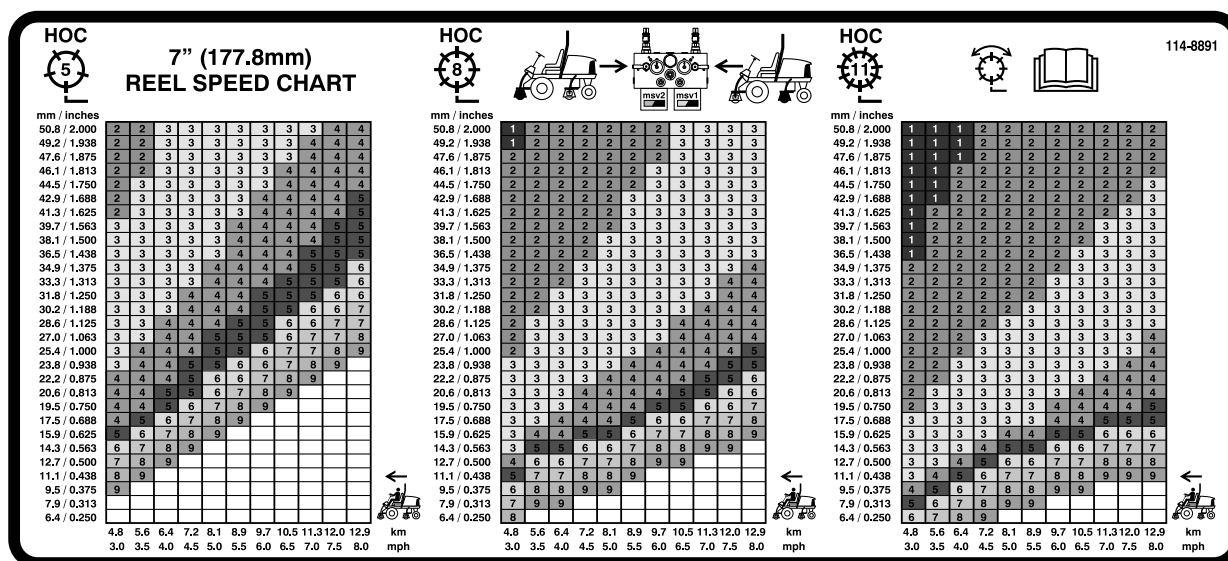

Figure 39
3. Using the appropriate graph on decal 110-0996 (Figure 39) determine the proper reel speed setting.